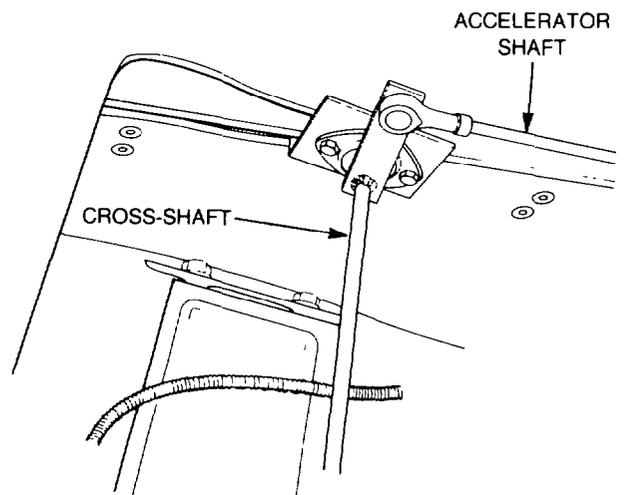

Figure 320 — Accelerator Shaft — Installation
- h. Connect the fuel pump accelerator linkage to the accelerator cross-shaft (see Fig. 320), then install the engine cover.